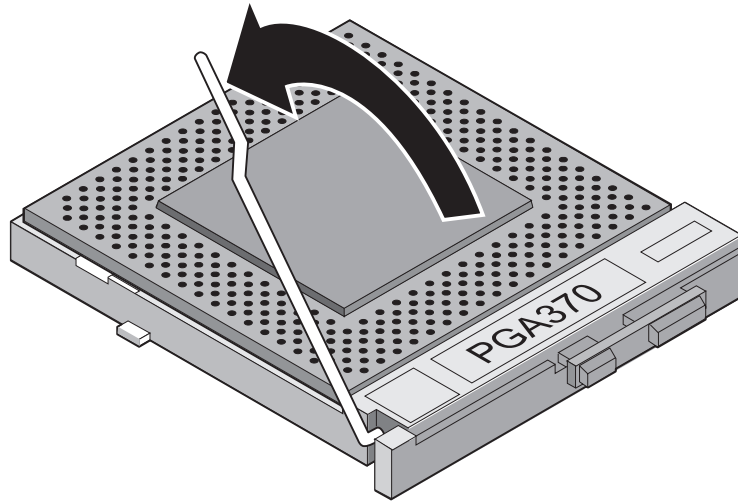

Figure 5. Closing the Handle
4. Close the handle completely (see Figure 5).